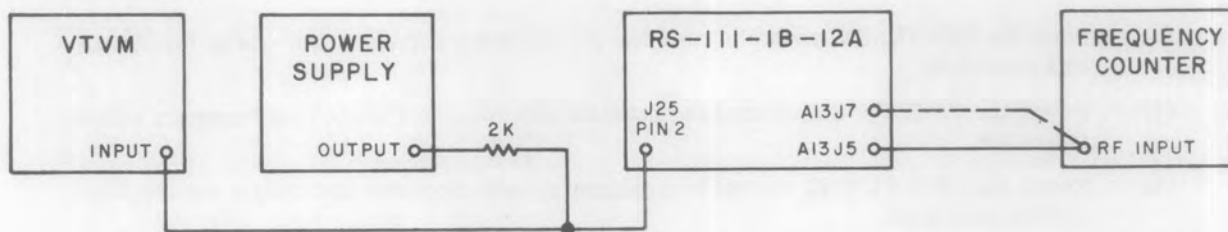

Figure 7-3. Test Setup, AFC/DAFC Range Performance Test
- (1) Connect the equipment as shown in Figure 7-3.
- (2) Set the receiver BFO TUNING and FINE TUNING controls to mid-range.
- (3) For each tuner and related dial frequencies listed in Table 7-4, connect the power supply for +4.0 volts and then -4.0 volts at J25 pin 2. Record the frequency counter indication at each voltage.
- (4) The difference in the two readings should be at least the amount given in the afc/dafc column of Table 7-4.